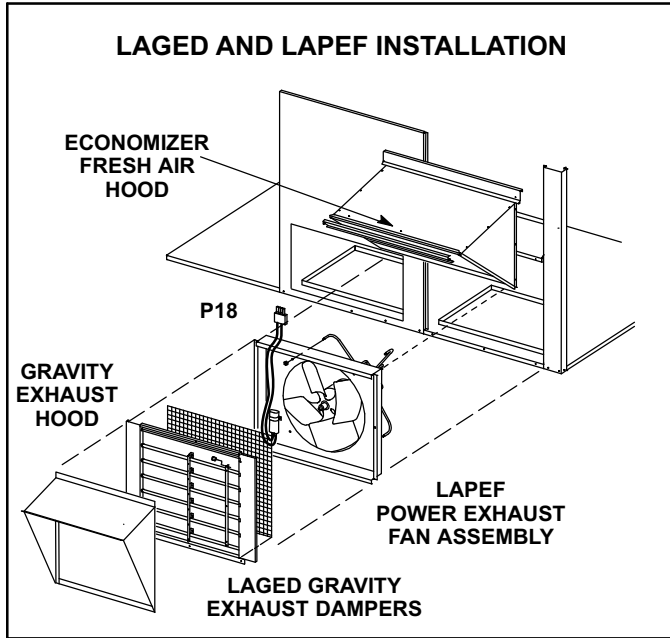

FIGURE 29
LAGED(H)10/15 dampers (figure 29) available for TGA090/150 units are used in downflow and LAGEDH are used in horizontal air discharge applications. LAGED(H) gravity exhaust dampers are installed in the return air plenum. The dampers must be used any time an economizer or power exhaust fans are applied to TGA series units.
LAPEF10/15 available for TGA090/150 units are power exhaust fans used in downflow applications only. LAPEF fans require optional down-flow gravity exhaust dampers and TA-REMD economizers. Power exhaust fans provide exhaust air pressure relief and also run when return air dampers are closed and supply air blowers are operating. Figure 29 shows location of the LAPEF. See installation instructions for more detail.